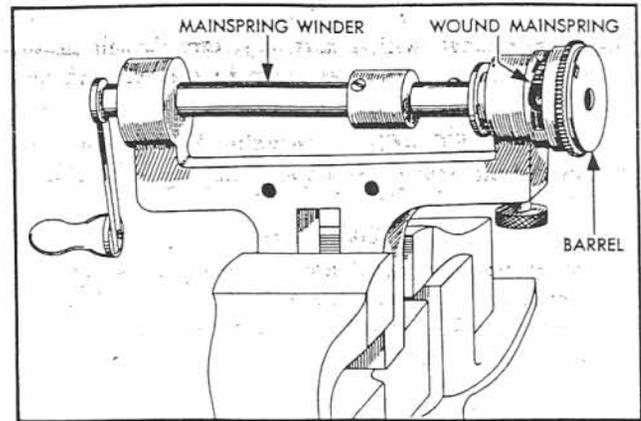
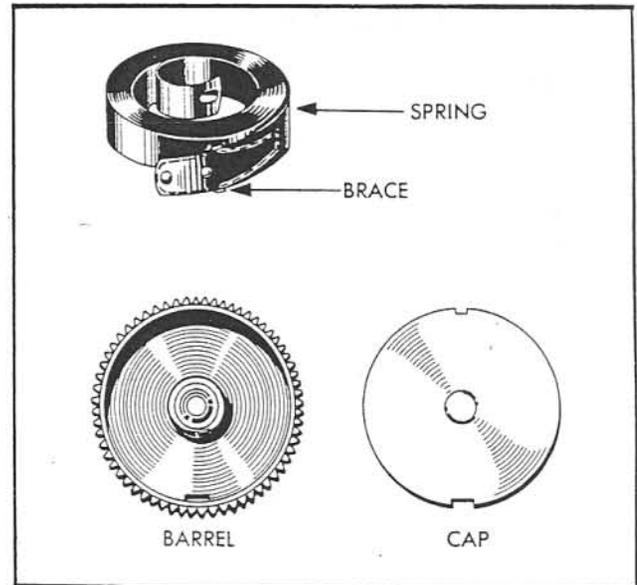

Figure 23—Winding Mainspring
Figure 24—Mainspring, Barrel, and Cap
(2) SECONDS SETTING MECHANISM.—Turn the movement over on the train side and install the seconds setting lever spring on its post. Then install the seconds setting lever, complete with spring finger, on its post in the recess in the pillar plate. Next put the seconds setting cap over the seconds setting lever and under the spring finger and into its recess. Install the two seconds setting cap screws.
(3) COILING MAINSPRING. (See figure 23).—To wind the mainspring in the mainspring barrel, fasten the mainspring winder firmly in a bench vise. Wind the mainspring slowly into the barrel-like recess of the winder. Place the mainspring barrel over the coiled mainspring and set the hook of the brace into the slot in the barrel. Press the mainspring winder plunger to transfer the wound mainspring into the barrel. Install the barrel arbor so that its hook engages the hole in the inner end of the mainspring. Then snap the barrel cap into its recess, with the larger slot in the cap engaging the other hook on the mainspring brace. These parts are shown in figure 24.